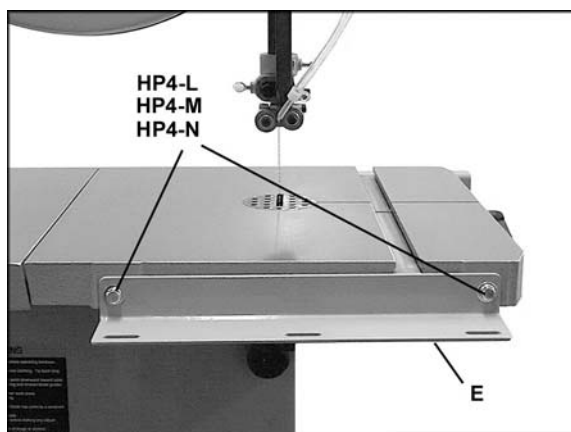

Figure 26
Refer to Figures 26 through 29.
1. Install *front rail* (E, Figure 26) to the main table using two *M6x20 hex cap screws* (HP4-L), two *1/4" lock washers* (HP4-M) and two *1/4" flat washers* (HP4-N). Finger tighten only at this time.
3. Tighten both screws on the front rail (HP4-L, Figure 26) with a 10mm wrench.
4. If the fence is not square to the table, slightly loosen the two screws in the front rail (see Figure 26) and raise or lower one end of the front rail assembly until fence is square to table.